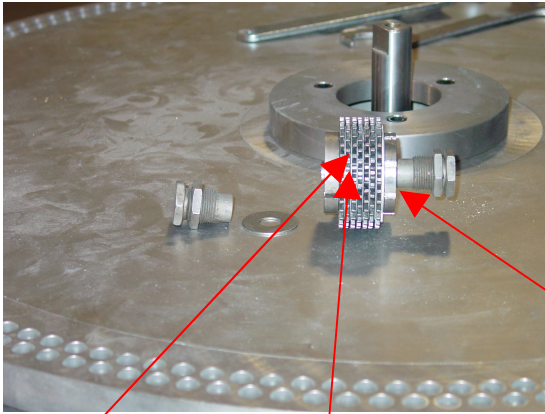

Figure 4
3. Dresser (Figures 4,5,6 and 7 on page 7)